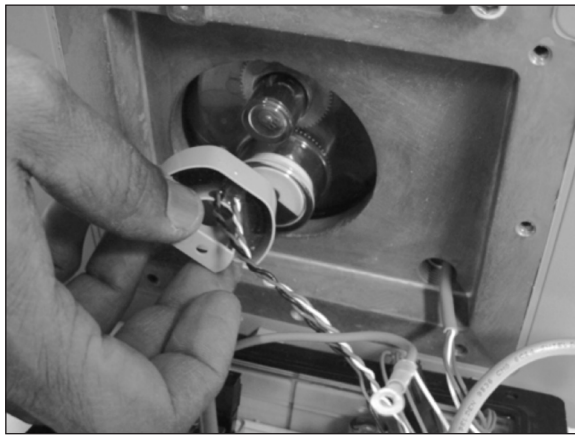

Figure 9.13 - Remove Wiegand assembly.
- Gently pull out the Wiegand assembly from its location as shown in Figure 9.13